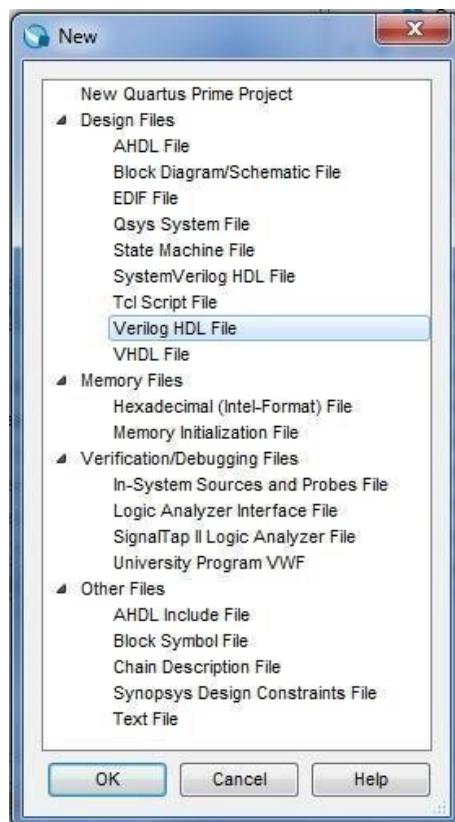

Figure 9: New File Window
- A window, shown in Figure 9, should pop up. Click on **Verilog HDL File** and then **Ok**.